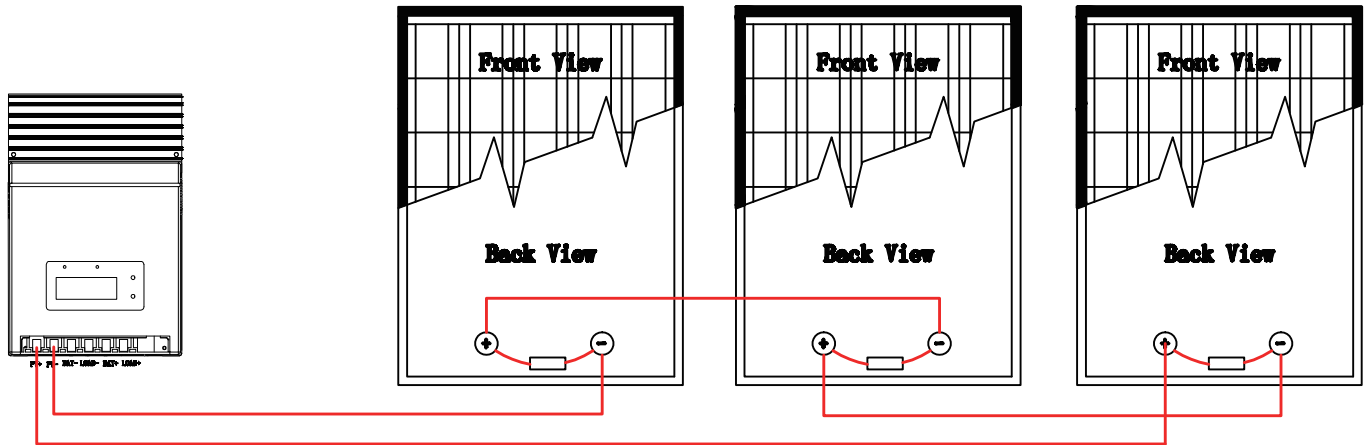

Figure 3-7. Solar modules in series connection
1) Multiple solar modules in series connection(Refer to Fig.3-7): All modules must be equal in voltage. The sum of their voltage must be equal to the nominal DC Voltage of the unit. The sum of their solar power must exceed the maximum capacity of the unit.